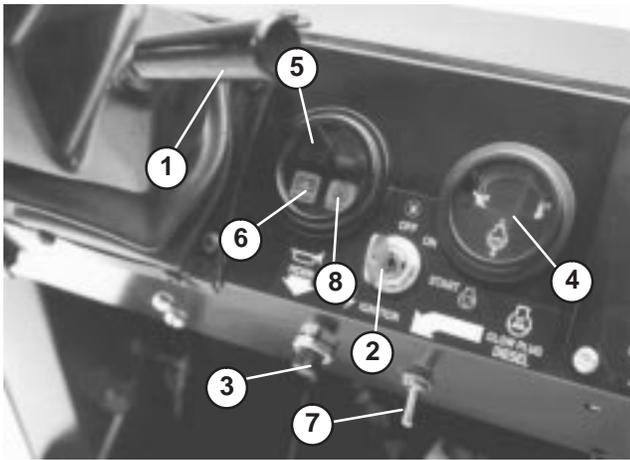

Figure 22
Lever on right side of console allows steering wheel to be adjusted for operator comfort (Fig. 22).
Pressing button activates horn (Fig. 22).
Registers coolant temperature in engine. Operates only when ignition switch is in On position (Fig. 22).
Light glows (Fig. 22) if engine oil pressure drops below a safe level while engine is running. If light flickers or remains ON, stop vehicle, turn off engine and check oil level. If oil level was low, but adding oil does not cause light to go out when engine is restarted, turn engine off immediately and contact your local TORO distributor for assistance.
Use to preheat engine cylinders prior to cold engine starting procedures — cylinders are preheated automatically during warm engine start operation. For cold starting, push switch lever upward and hold while watching indicator (Fig. 22). Indicator will glow orange when the glow plugs are activated. Length of time necessary to preheat cylinders should be determined by atmospheric temperature; refer to Starting /Stopping Engine.
The ignition switch (Fig. 22), used to start and stop the engine, has three positions: OFF, ON/Preheat and START. Rotate key clockwise — START position — to engage starter motor. Release key when engine starts. The key will move automatically to the ON position. To shut engine off, rotate key counterclockwise to OFF position.
Illuminates when battery is being discharged. If light illuminates during operation, stop vehicle, turn off engine and check for possible causes, such as alternator belt (Fig. 22).
5. When temperature is below 15 degrees C (60 degrees F), push glow plug switch upward to ON position (Fig. 22) and hold for suggested interval.